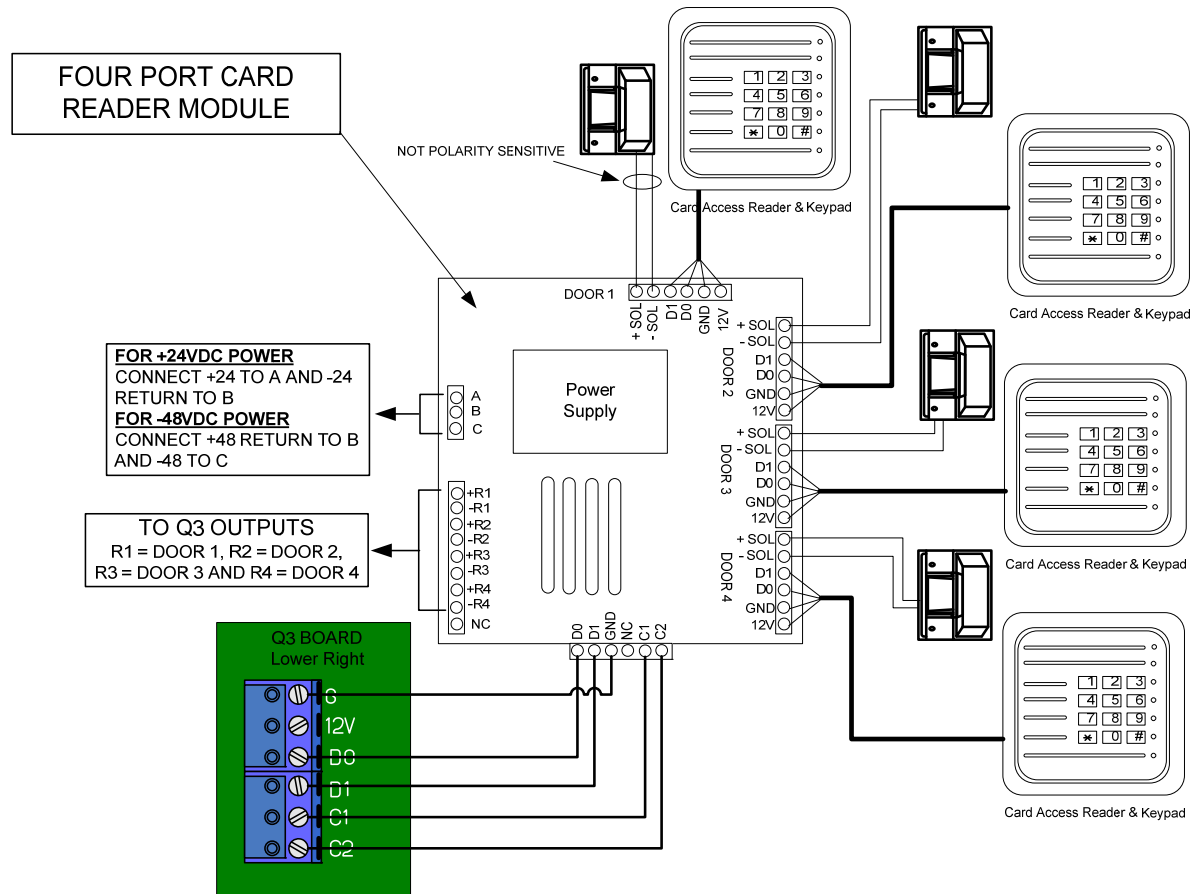

Figure 6: Connection Drawing for 4 Port Card Reader
Step 4: Connect D0, D1, GND and 12V from the 4-port module to the same points on each card reader (Figure 6).
Step 5: Using 4 conductor 20 AWG shielded cable, cut and insulate the drain wire at the reader and ground the drain wire at the 4 port module only (Figure 6).